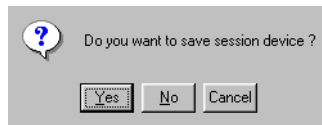

Figure 13: Save Session dialog box
12. Click **Yes**. A message box displays (Figure 13).